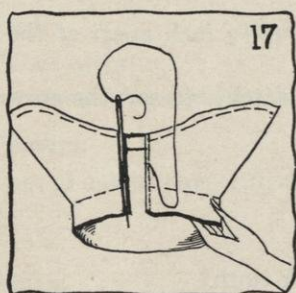

FIG. 17.
- e. Sew seam with invisible slip stitches in thickness of felt (see Figures 17 and 18).